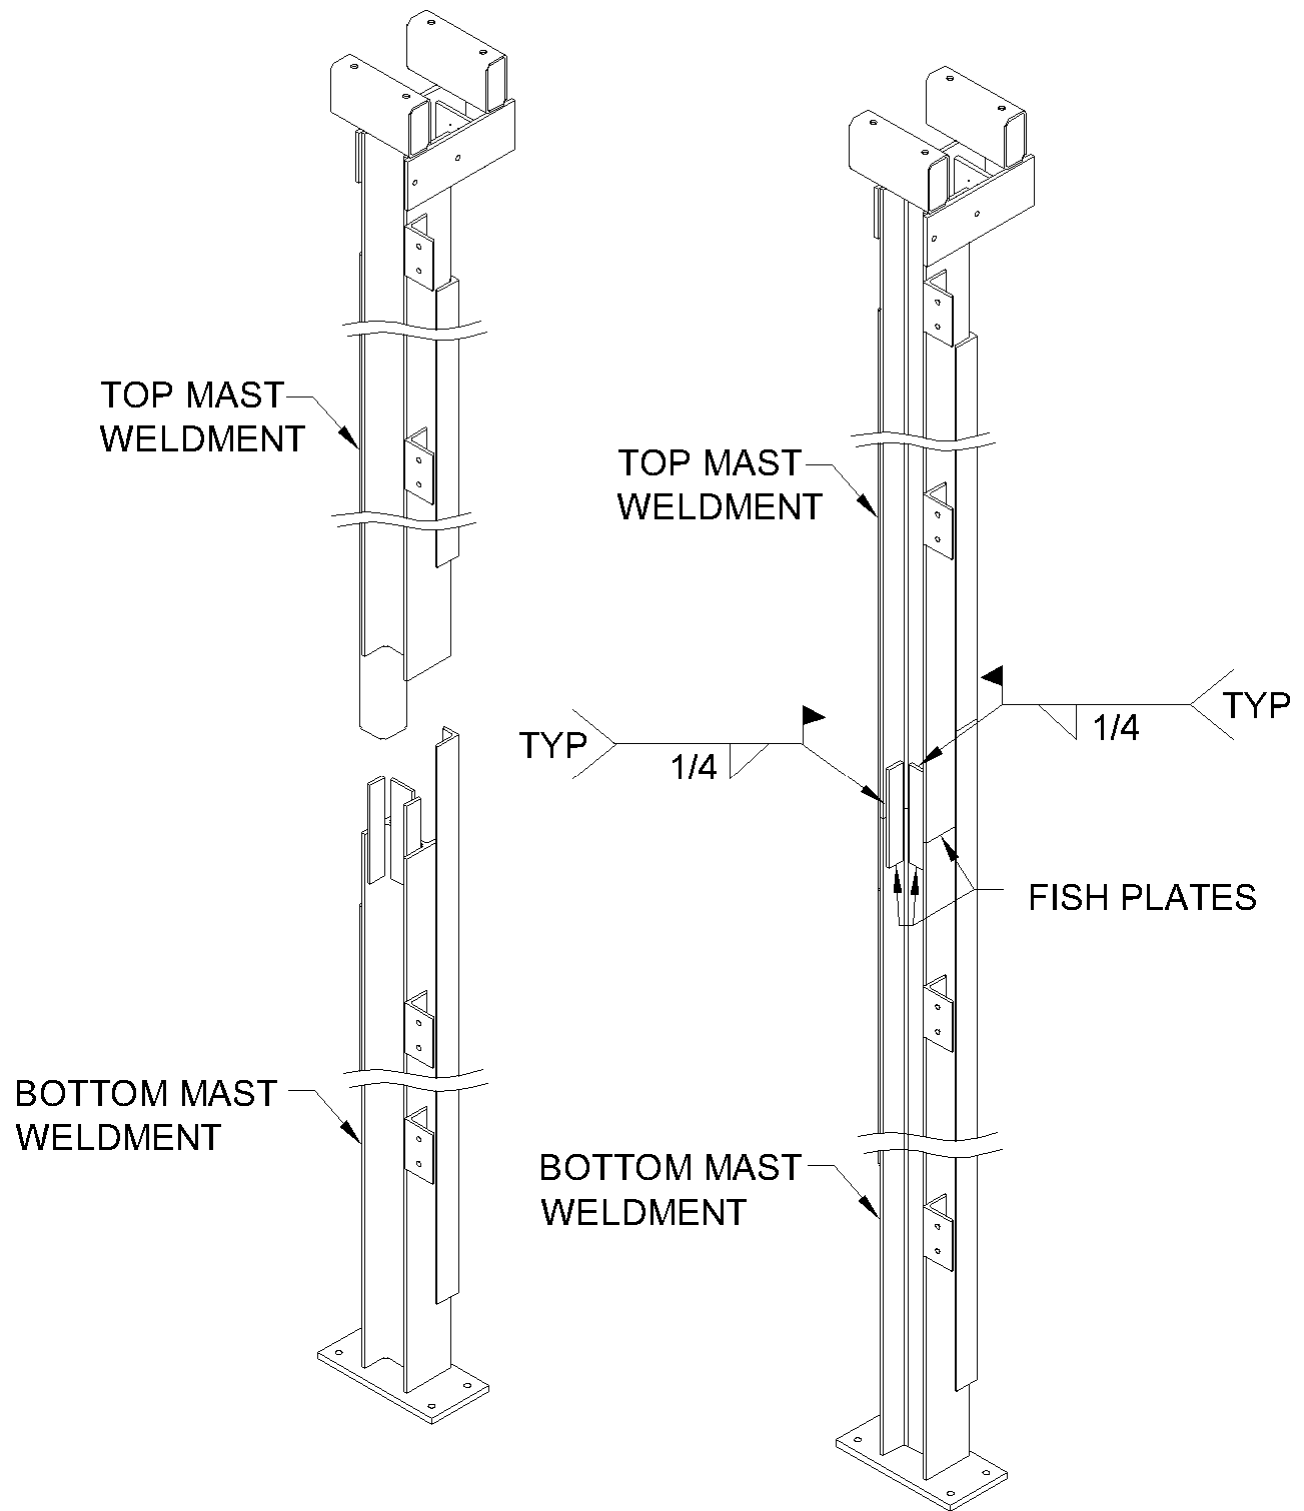

Figure 24 Mast Splice Detail
1. Set the upper mast on its respective lower mast (plates & beams are marked) in the orientation shown on **Figure 24**, taking necessary precautions not to bend or damage transition plates.